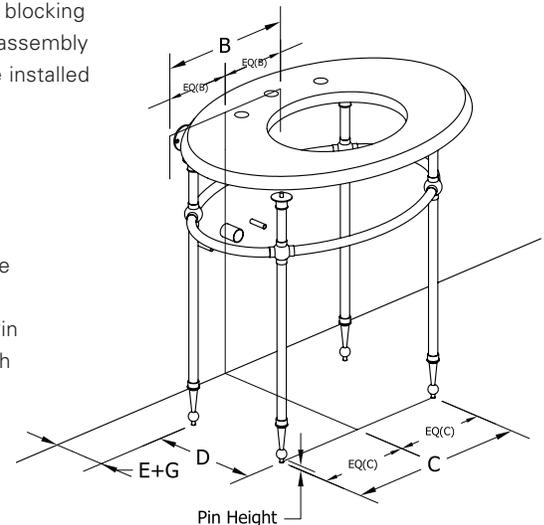
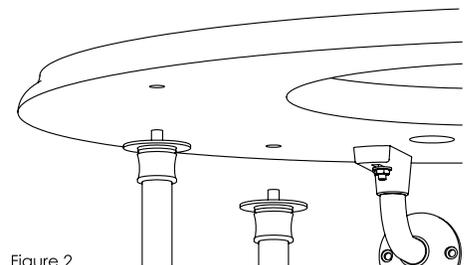

Figure 1
Figure 2
- a. Set the leg frame in position at the wall, centered at the plumbing lines and drain. See Figure 1. Set the washstand top with the sink brackets attached to the studs under the top onto the base assembly, with the leg top pins engaged in the holes in the marble top. See Figure 2. The pins on the legs will keep the washstand raised above the floor by the Pin Height for this step. Move the assembly so that the brackets are flush against the wall with the desired top-to-wall gap Dimension G. Use care when moving and positioning. Use a helper to hold everything steady.